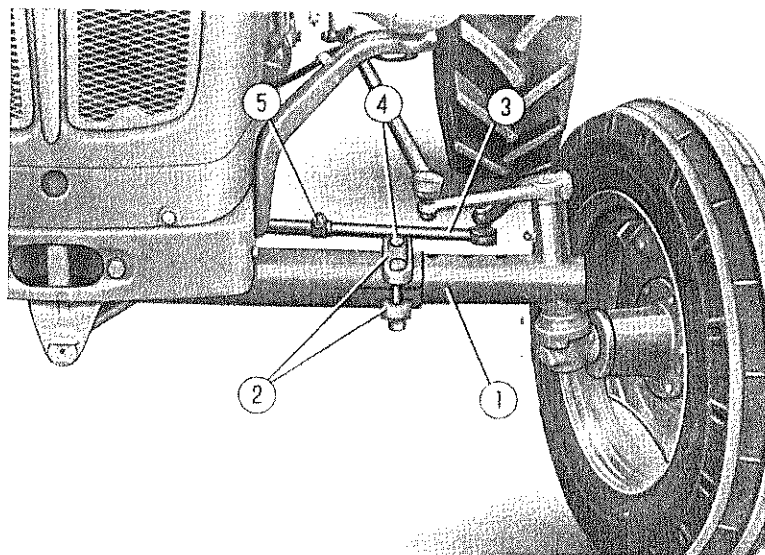

Fig. 11. - Front wheel track setting.
**Front wheel track settings** (see fig. 11): raise the tractor front axle, remove the screws of steering rod clamps 5, loosen the bolts of axle clamps 2 and slide out pin 4. Move adjustable axle section in or out until the desired track width is obtained and secure in position; finally, secure the steering-rod clamp.